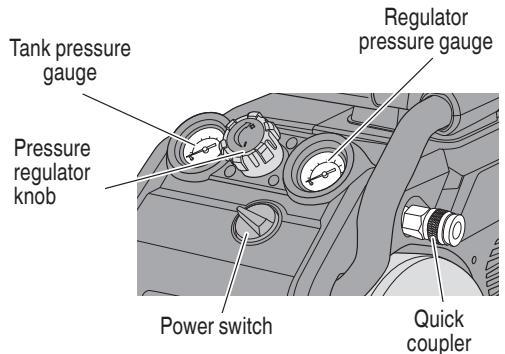

Fig. 7
- Insert the hose into the quick coupler already installed on the compressor (Fig. 7).